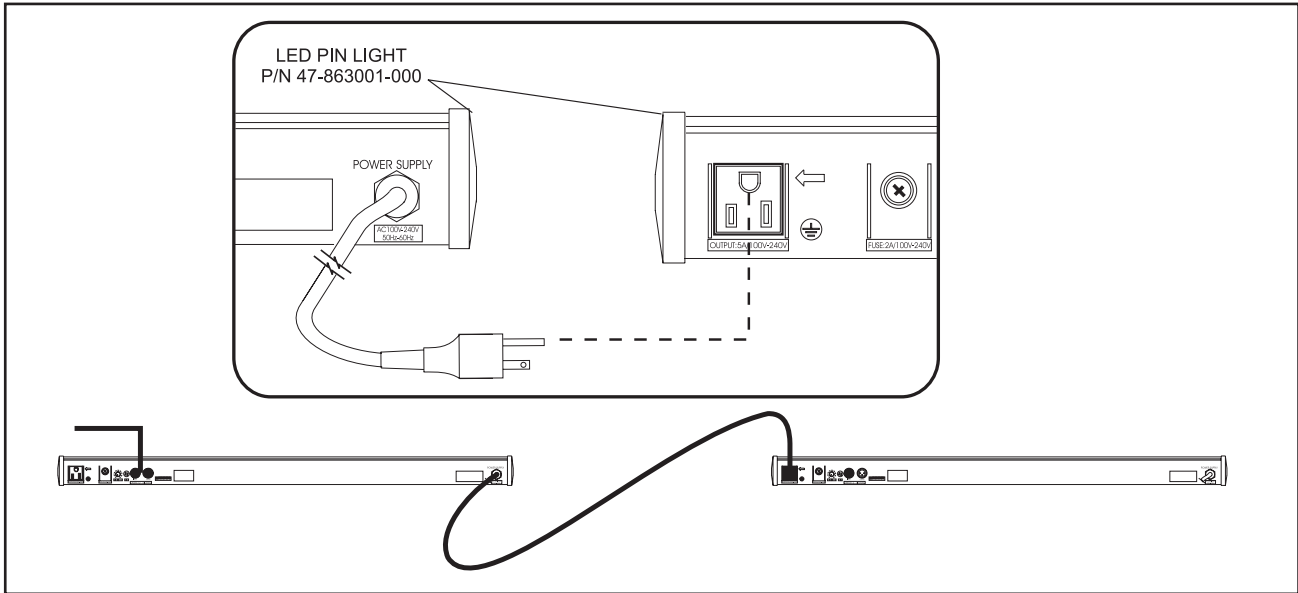

Figure 15
1. Starting at the first or last light, plug the light into a standard electrical outlet. An adapter may need to be used, but the light will support 90-240V 50/60 Hz. Refer to *Figure 15*.